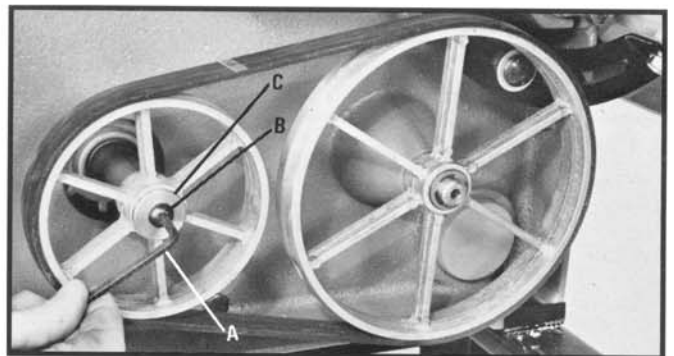

Fig. 26
3. Using hex key wrench (A) Fig. 26, supplied with band saw, remove button head screw (B) and retainer (C).